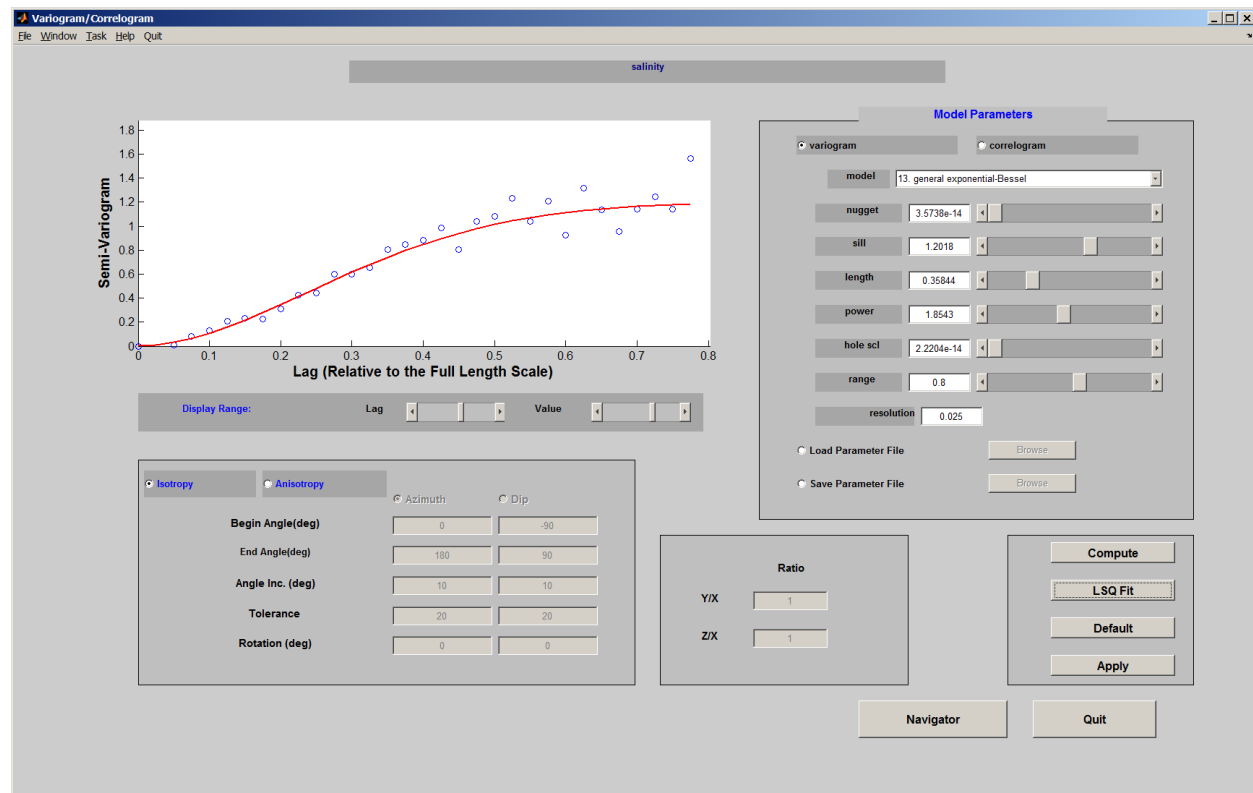

Figure 3. Variogram/Correlogram window.
Selecting “Variogram” from “Task” on the Menubar leads to a popup Variogram/Correlogram window (Fig. 3). Click on the “Compute” button to generate a data-based semi-variogram (or correlogram). Then, we need to seek a model-based semi-variogram or correlogram to fit the data-based variogram just computed. It can be proved that, based on Eq. (4), the relation between the normalized semi-variogram $\gamma_n(h)$ [normalized by the variance $C(0)$] and the correlogram $C_n(h)$ is: